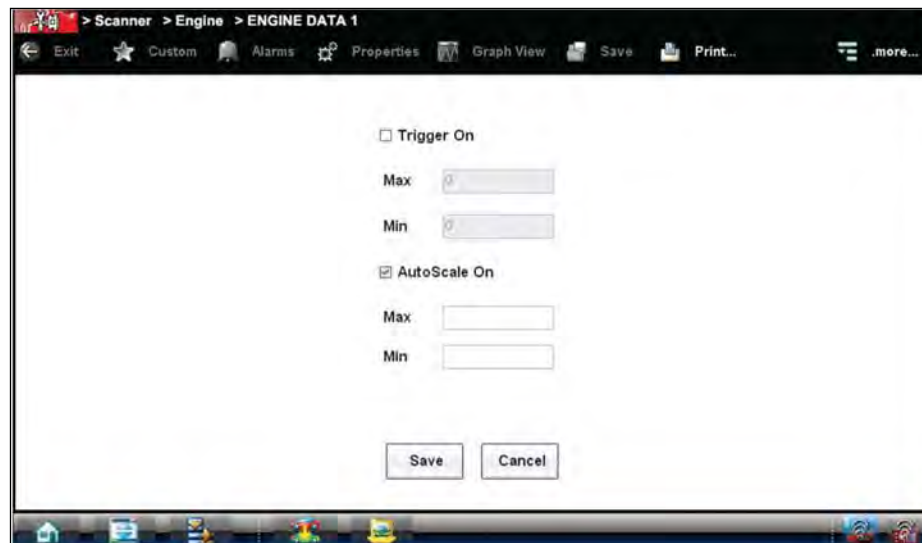

Figure 4-33 Sample manual scale selection
2. From the Graph Properties dialog box (Figure 4-33), select **Auto Scale On**.